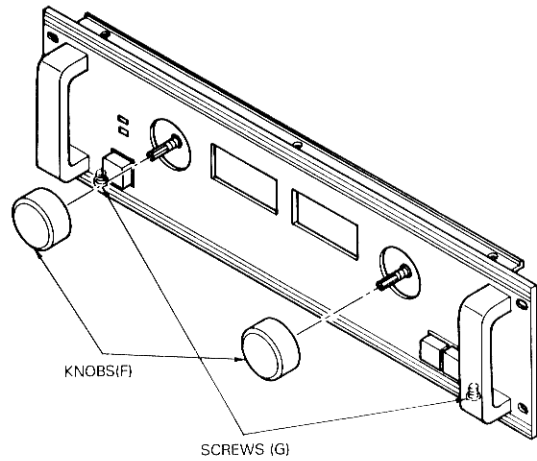

Fig. 3
- (a) Remove 2 knobs (F). (Fig.3)
- (b) Remove 2 screws (G). (Fig.3)